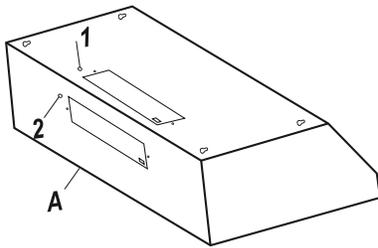

Fig. 9
- Choose the appropriate electrical knock-out hole to remove for your installation type. Use the top hole (1) if your electrical supply is in the cabinet and the back hole (2) if your electrical supply is on the wall below the cabinet (refer to Fig. 9).